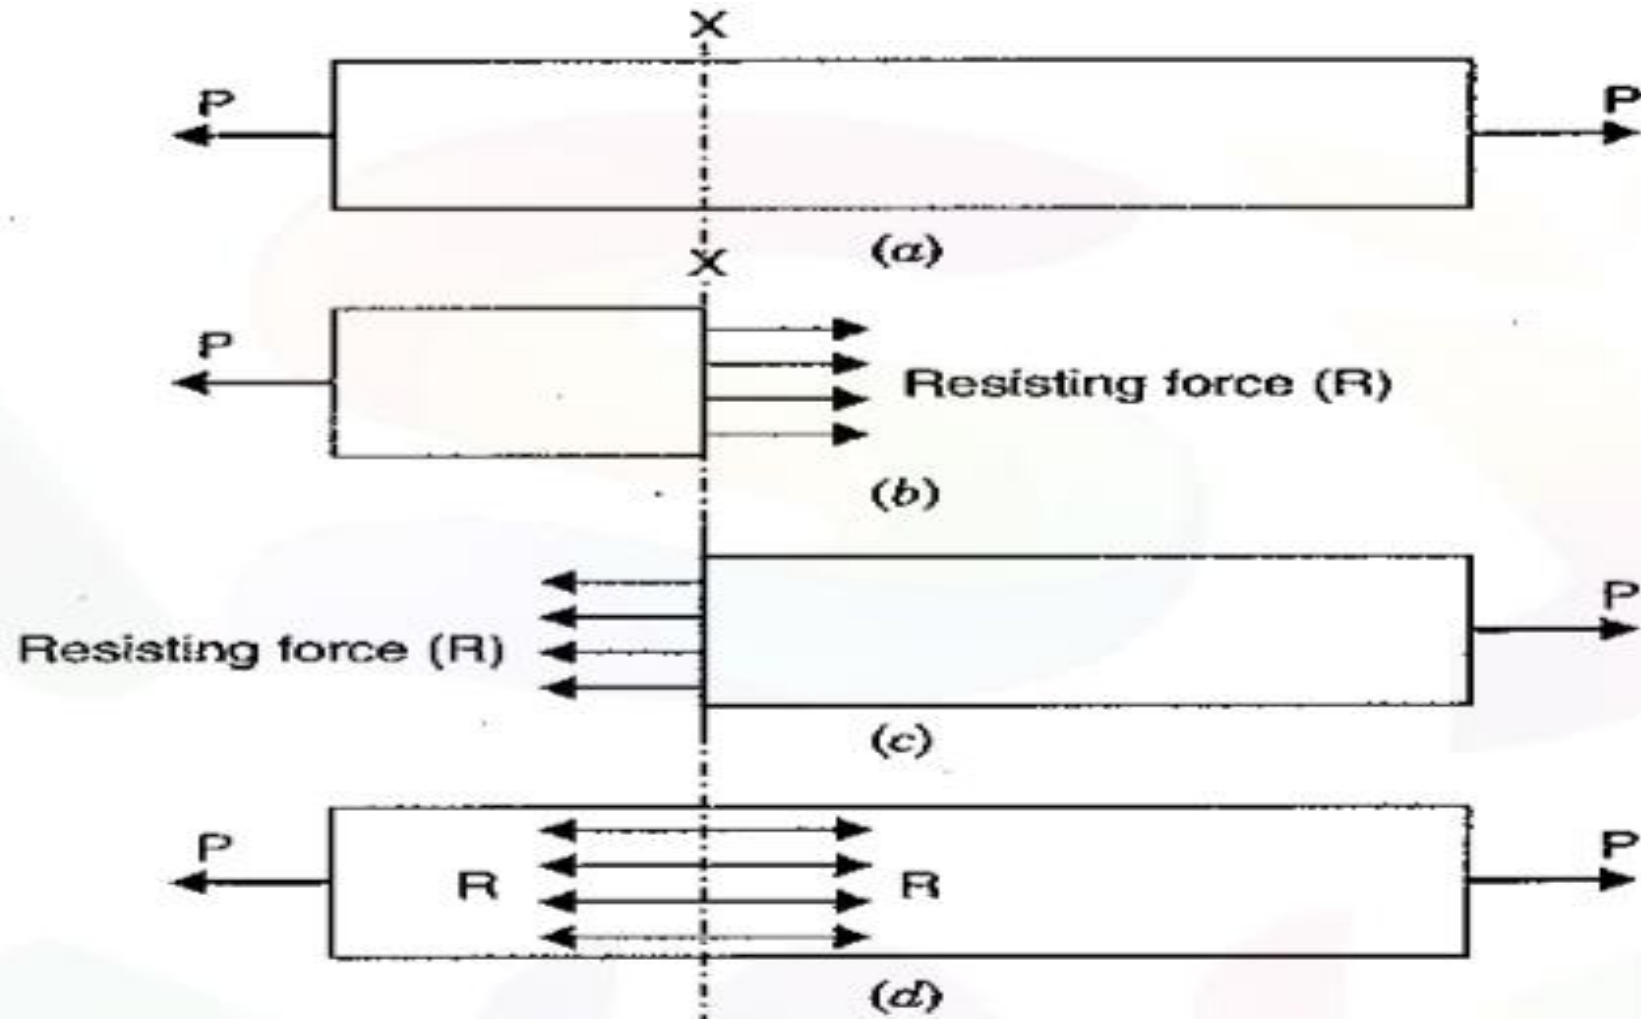

Fig. 1.1
**1.4.1. Tensile Stress.** The stress induced in a body, when subjected to two equal and opposite pulls as shown in Fig. 1.1 (a) as a result of which there is an increase in length, is known as tensile stress. The ratio of increase in length to the original length is known as *tensile strain*. The tensile stress acts normal to the area and it pulls on the area.
Fig. 1.1 (a) shows a bar subjected to a tensile force  $P$  at its ends. Consider a section  $x-x$ , which divides the bar into two parts. The part left to the section  $x-x$ , will be in equilibrium if  $P$  = Resisting force ( $R$ ). This is shown in Fig. 1.1 (b). Similarly the part right to the section  $x-x$ , will be in equilibrium if  $P$  = Resisting force as shown in Fig. 1.1 (c). This resisting force per unit area is known as stress or intensity of stress.